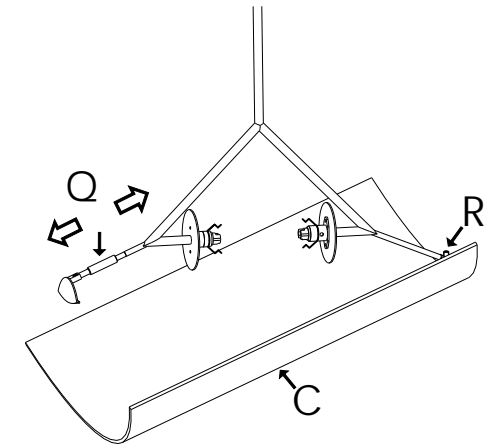

FIG.2
4. Slacken off tie rod "Q" by approximately 5/8". **FIG.2**
5. Fit the glass diffuser shade "C", placing it over the fixed clip "R" first and then over the other one twisting the lass slightly upwards. **FIG. 2**